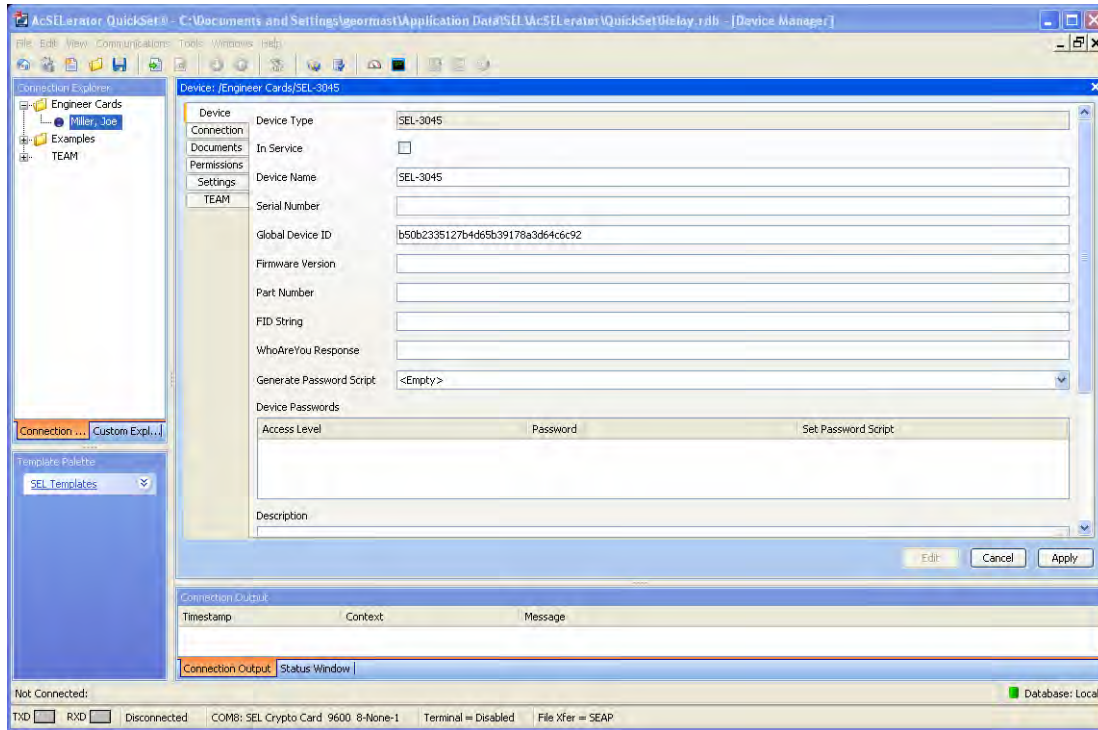

Figure 3.2 Device Manager Showing an SEL-3045
- Step 4. Double-click on the new card from within Connection Explorer in Device Manager to open the configuration area for that card. *Figure 3.2* shows a typical view of the Device Manager configuration display that would result after you double-click on the SEL-3045 device renamed “Miller, Joe”.